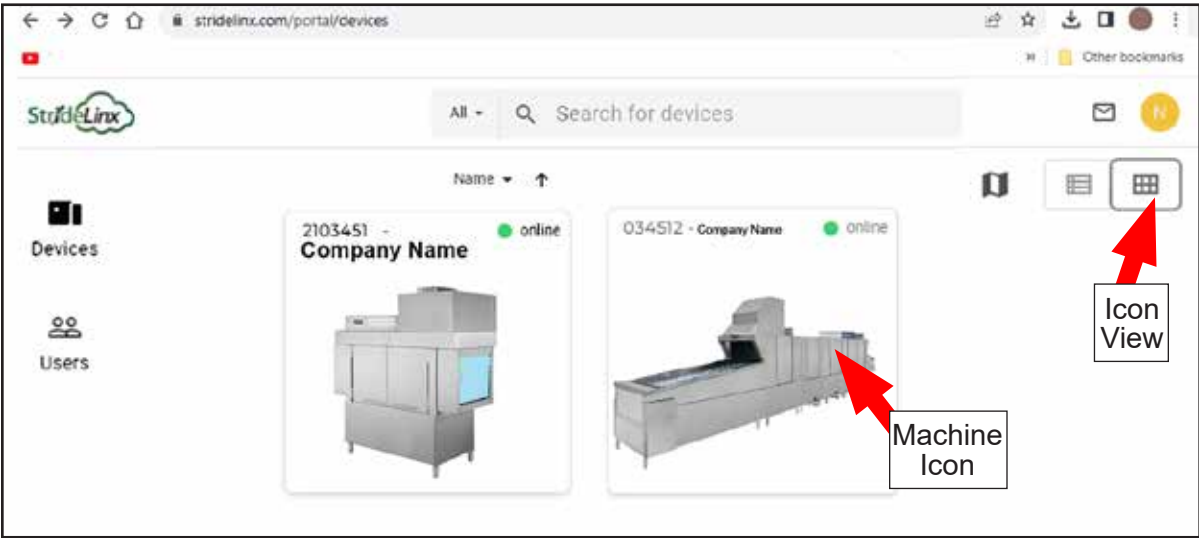

Fig. 7 - Click the machine icon to access your Directlink Dashboard.
- Enter your login credentials and click on the machine's icon, (Fig. 7).